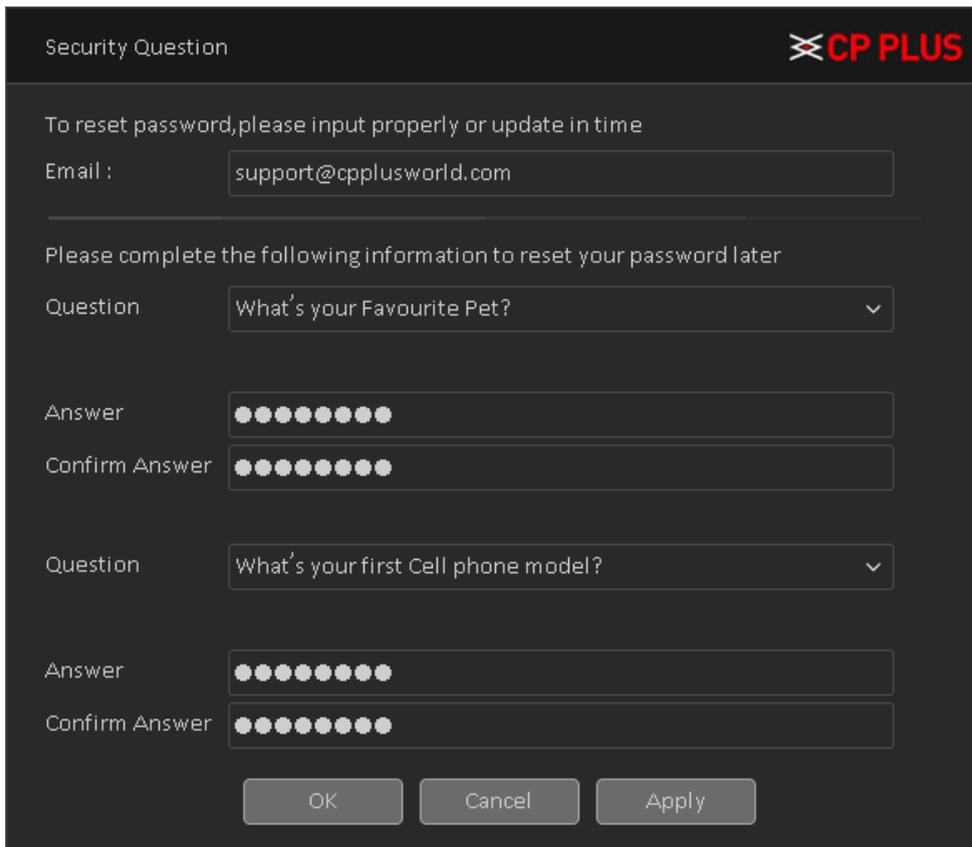

Figure 4.71
- **[Forget Password]** User can set or modify Email ID and security question if user skip these configurations at device initialization. It will help to reset password in future if user forget the password. See Figure 4.71